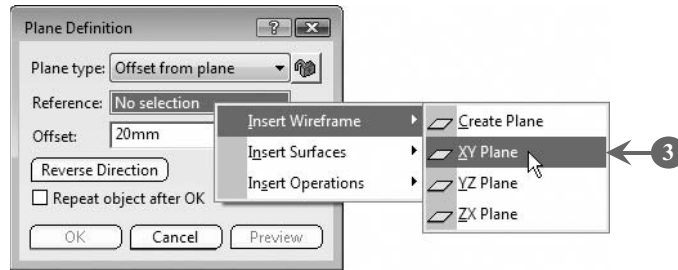

FIGURE 5.15
The **Plane Definition** dialog box opens (**Figure 5.15**).
3. *Right-click* inside the **Reference** box and *select* the **Insert Wireframe > XY-Plane** option from the context menu to specify the  $xy$ -plane as the reference plane for the plane to be created, as shown in **Figure 5.15**: